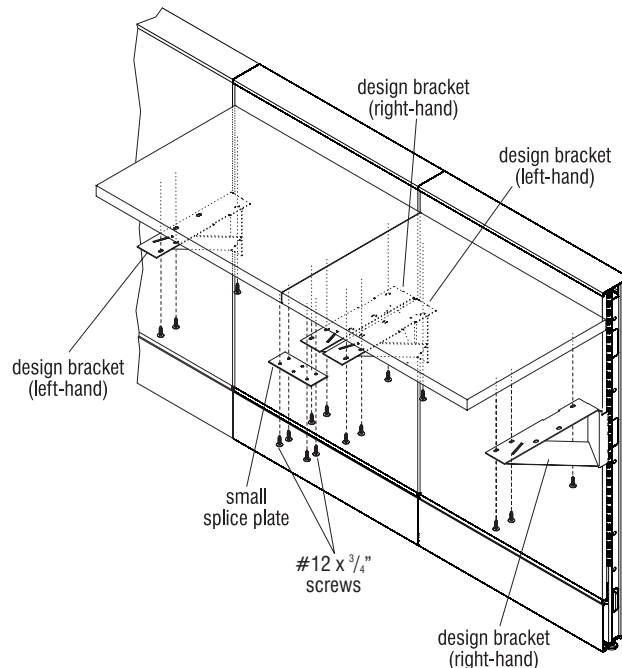

Figure 8 - Design Bracket with 18" Worksurface with 74P & Knife Edge
6. To keep worksurfaces level, install a small splice plate between worksurfaces as illustrated. Position the splice plate centered under the installed worksurfaces and use mounting holes as template, then mark mounting hole locations. Pre-drill $\frac{1}{8}$ " dia. mounting holes to a depth of $\frac{1}{2}$ " only, taking care to not drill too deep which may damage the worksurface (Figure 8).
7. Install worksurface splice plate to underside of worksurfaces using four #12 x $\frac{3}{4}$ " screws. Take care to not over-tighten screws (Figure 8).